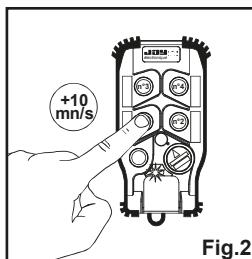

Fig.2
- 4- Select the new time using buttons n°1 and n°2 (fig.2&3).